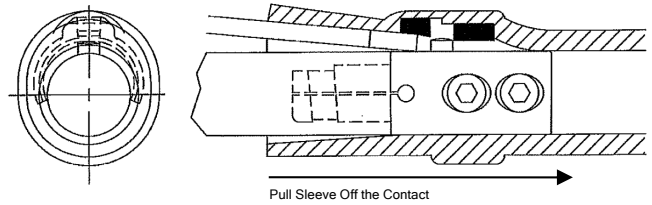

Figure 17
3. Rotate screw-driver blade 90° to lift the pin lock off the contact pin, then pull the Cam-Lok sleeve off. See Figure 17.